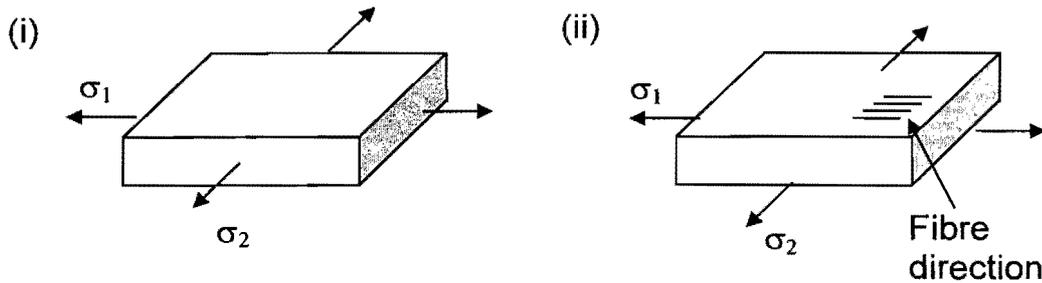

Figure 6
10. Figure 6 shows the principal stress directions for biaxial loading, with $\sigma_3 = 0$, in: (i) isotropic materials (e.g. metals, unreinforced concrete), and (ii) uniaxial fibre composites.